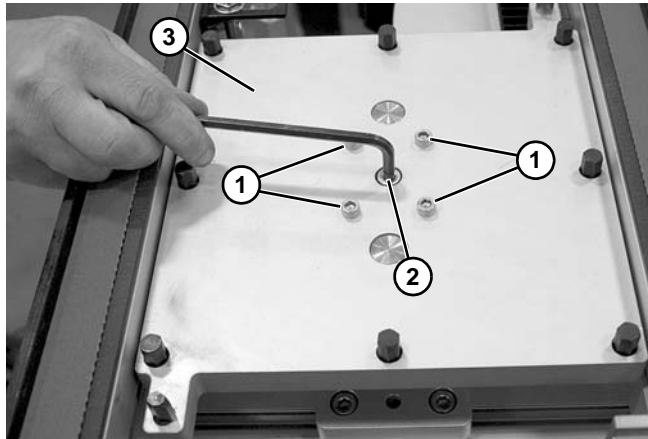

Figure 104
4. Remove socket head screws (**Figure 104, item 1**). Remove socket head screw (**Figure 104, item 2**) securing top plate (**Figure 104, item 3**) to cylinder shaft. Remove top plate.